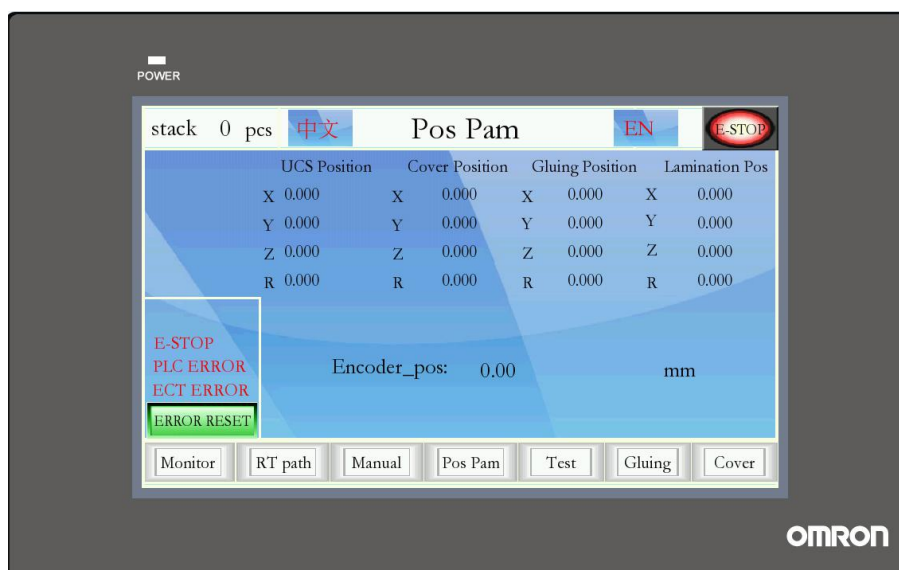

Figure 5
7. As show in figure 2, after figure 5 【position parameter】  correction set into the trial production, click on the 【Conveyor】 and 【ORG】 button, then click 【start】 button, the machine into the trial production status. Check the test production after passing the speed can be adjusted according to production needs, adjust the choice of "+", "-" key or directly press the bit speed to display the value of the rapid adjustment.